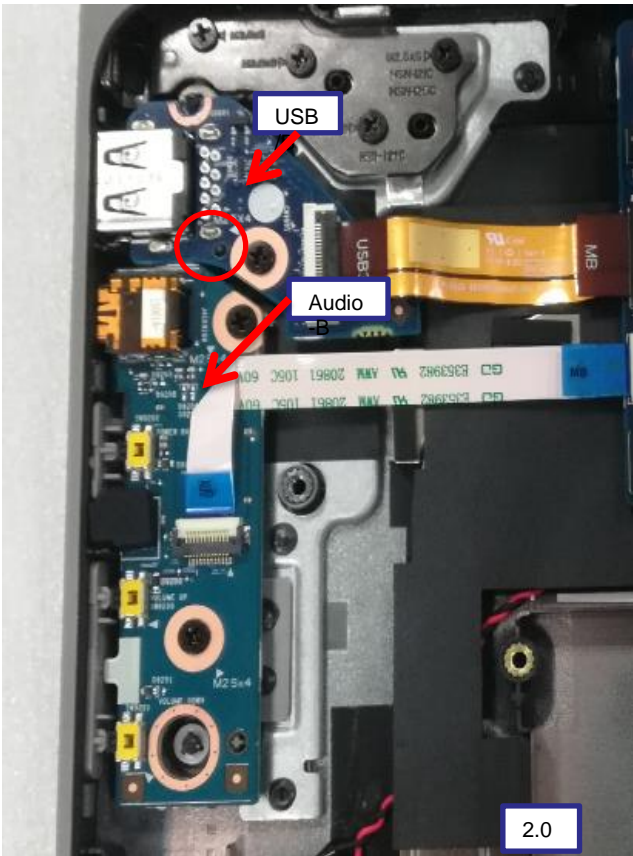

Fig 2
2. Remove Audio/B ,USB/B group in Base (Fig 2)